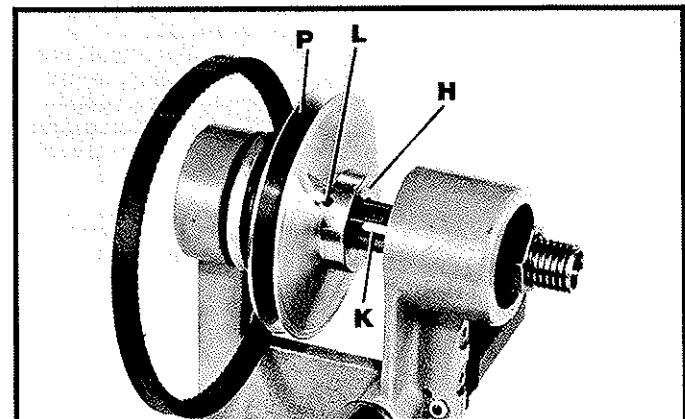

Fig. 94
12. Fig. 94, illustrates the spindle assembly replaced in the headstock. Loosen set screw (L) and move pulley hub (H) to the mark made on the spindle (K) in **STEP 8** and tighten set screw (L). **CAUTION: CARE MUST BE TAKEN WHEN LOOSENING SCREW (L) AS THERE IS CONSIDERABLE SPRING PRESSURE WHICH WILL MOVE THE PULLEY HALVES TO THE RIGHT.** After set screw (L) is tightened, manually move pulley half (P) to the left as far as possible and push belt down between pulley halves. This will provide sufficient slack in the belt when assembling belt to motor pulley.